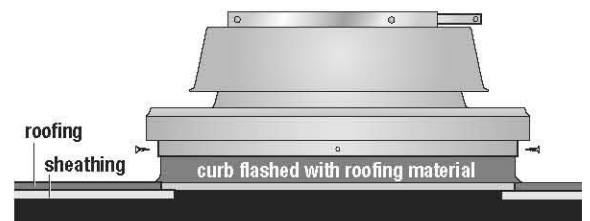

Figure 3
Step 5 Attached the solar attic fan to the curb using (4) screws provided through the pre-drilled holes on the solar attic fan curb lip (see Figure 3).